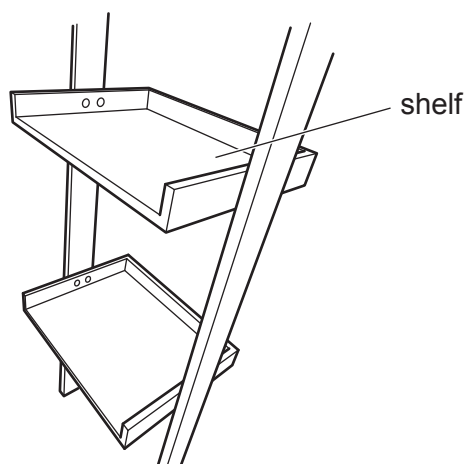

Fig. 5
- (c) The shelves shown in **Fig. 5** are made from manufactured board.